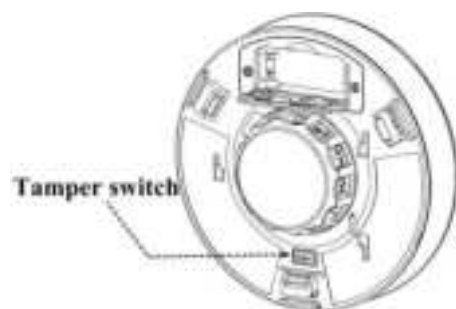

Figure11: Tamper switch location
TAMPER ALARM: When the bracket is uninstalled, the tamper switch is opened, the tamper alarm will sound, the tamper switch location as shown in **Figure11**, The tamper alarm pattern is two (2) corresponding flashes of the yellow LED.